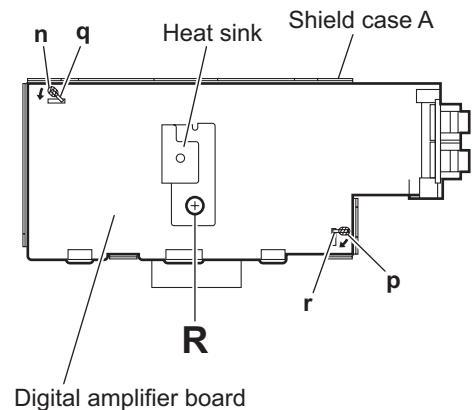

Fig.22
- (4) From the forward side of the digital amplifier board, remove the screw **R** attaching the heat sink. (See Fig.22.)
- (5) Remove the solders from the soldered sections (**n, p**) and bend the sections (**q, r**) of the shield case A in the direction of the arrow. (See Fig.22.)
- (6) Take out the digital amplifier board from the shield case A.